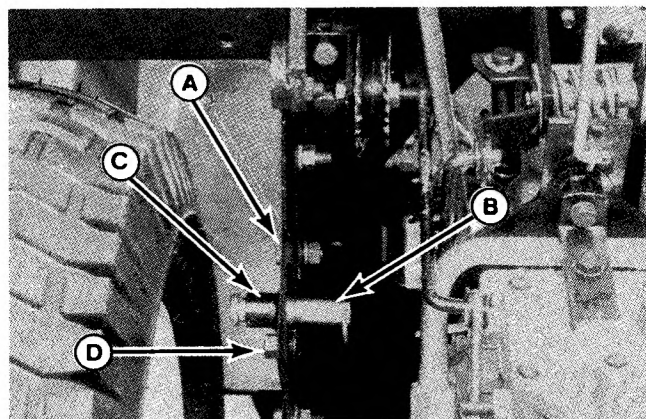

Figure 33.
- a. Remove bolt and nut (A, Figure 33) from round (top) hole in wrapper.
- b. Slide pin (B) into bushing assembly (C).
- d. Install square neck bolt (D) from underside of tractor and secure with nut on outside of wrapper.
- e. Reinstall removed bolt and nut (A) in round (top) hole.